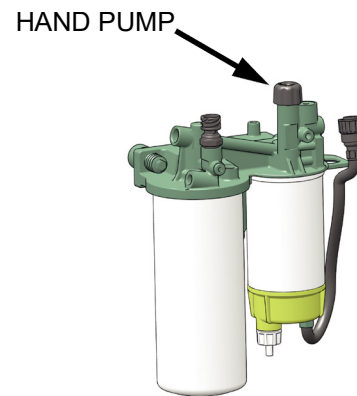

Figure 66. Bleeding The Fuel System
2. Release the **hand pump** (Figure 66) on the fuel bracket by pushing down and twisting the plastic handle.